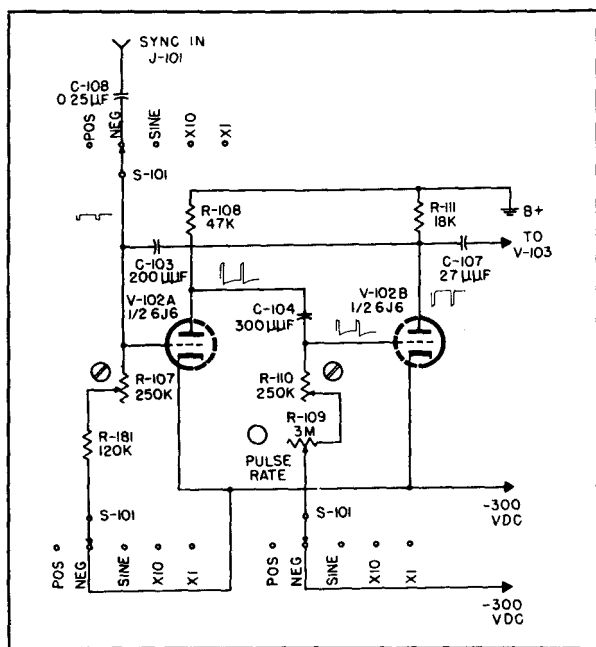

Figure 3-10. External Negative Pulse Sync. Circuit
(3) EXTERNAL NEGATIVE PULSES.-When the external synchronizing voltage is a negative pulse, the grid of V-102B is returned through S-101 to a point about 30 volts negative with respect to the cathode so that the tube is cut off (figure 3-10). The grid of V-102A is returned to the cathode causing high plate current in the tube. This is a stable condition so that the circuit does not act as a multivibrator on external negative pulses but as a kind of pulse repeater.